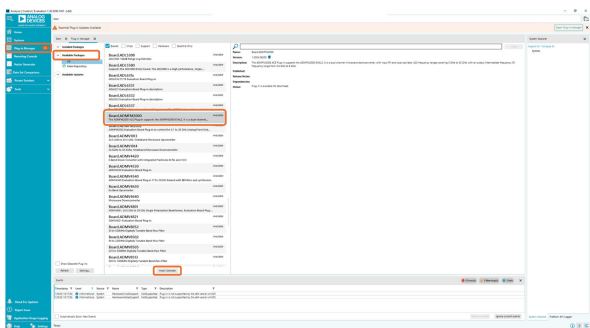

Figure 5. ADMFM2000 ACE Plugin Install
1. Open the **ACE Plug-in Manager** window as shown in Figure 5.